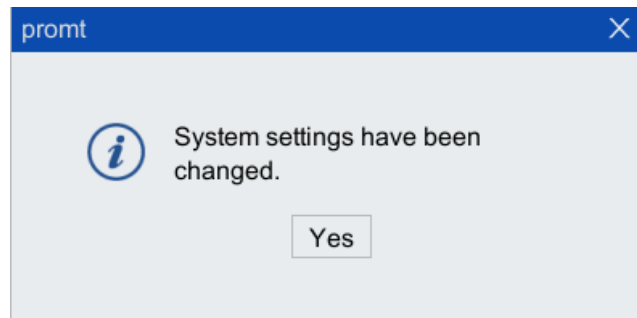

Figure 8-30 "System settings have been changed" dialog box
Step2. After the setting is completed, click the <Apply> button, and the "System settings have been changed" prompt box as shown in Figure 8-30 will pop up to complete the setting; if you click the <Refresh> button, it will return to the initial setting.